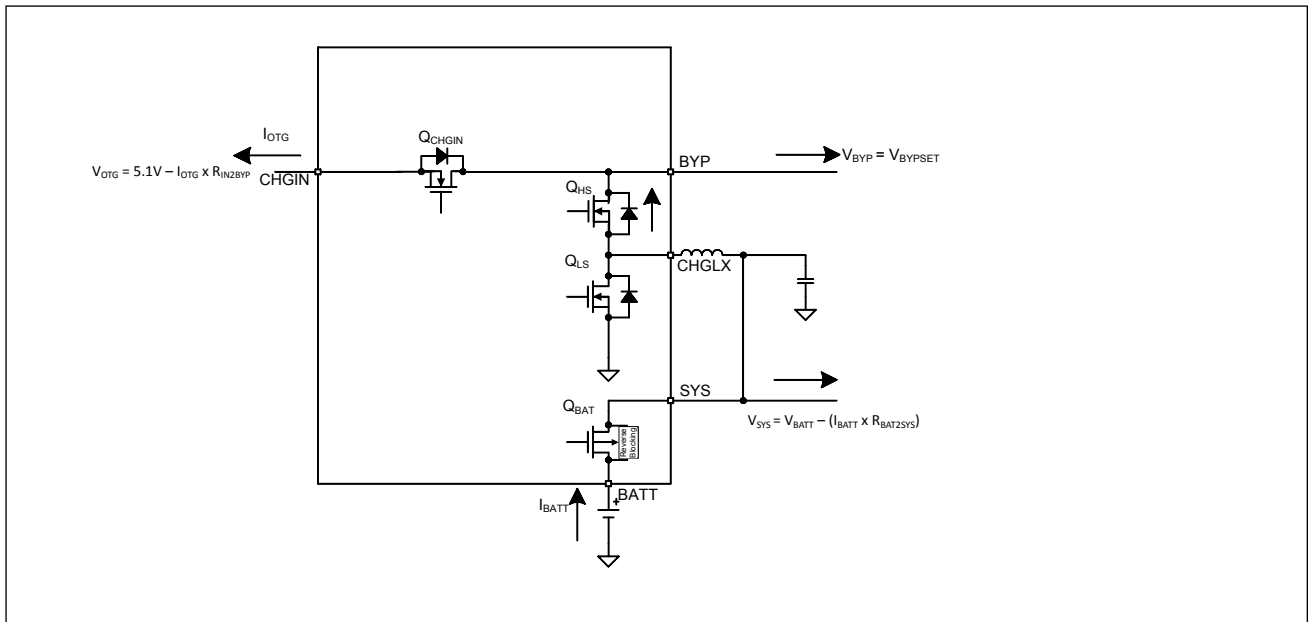

Figure 7. Battery-Boost (OTG)
4. BATTERY-BOOST (OTG), MODE = 0x0A: OTG is active ( $Q_{CHGIN} = \text{on}$ ). Battery is connected to support SYS and OTG loads ( $Q_{BAT} = \text{on}$ ) and charger is operating in boost mode (boost = on), see Figure 7.